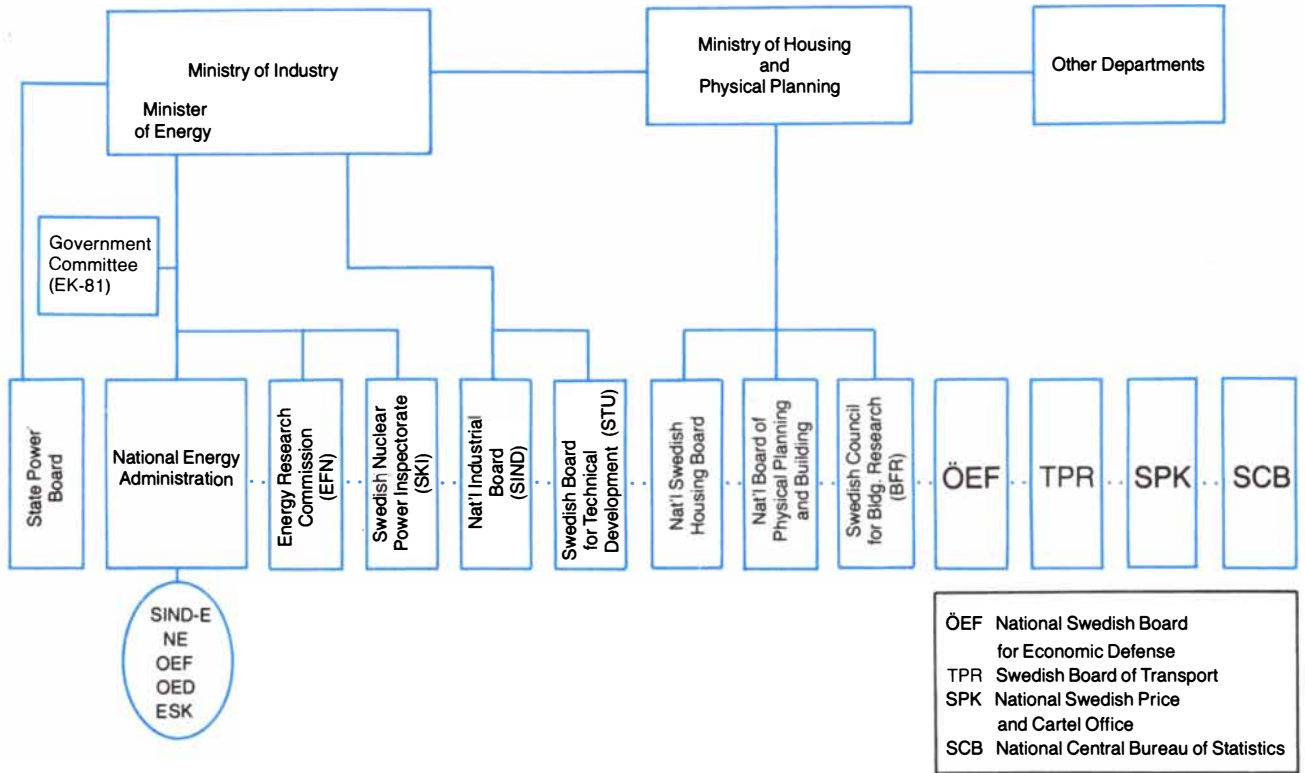

Figure 4.
The Energy Bill of 1981 also restructured a major part of the government's energy-related activities. Figure 4 shows how the various energy organizations were reshuffled: the National Industrial Board's Energy Section (SIND-E), the National Board for Energy Source Development (NE), the Oil Substitution Fund (OEF), the Delegation for Oil Substitution (OED) and the Energy Conservation Committee (ESK) were all placed under the newly created National Energy Administration with Carl Tham as its director general. Figure 4 also shows how the rest of the government bureaucracy concerned with energy fits into the overall picture. The reorganization was long overdue, according to some specialists, especially since it streamlines the government's channels and concentrates more of its essential activities under one roof.